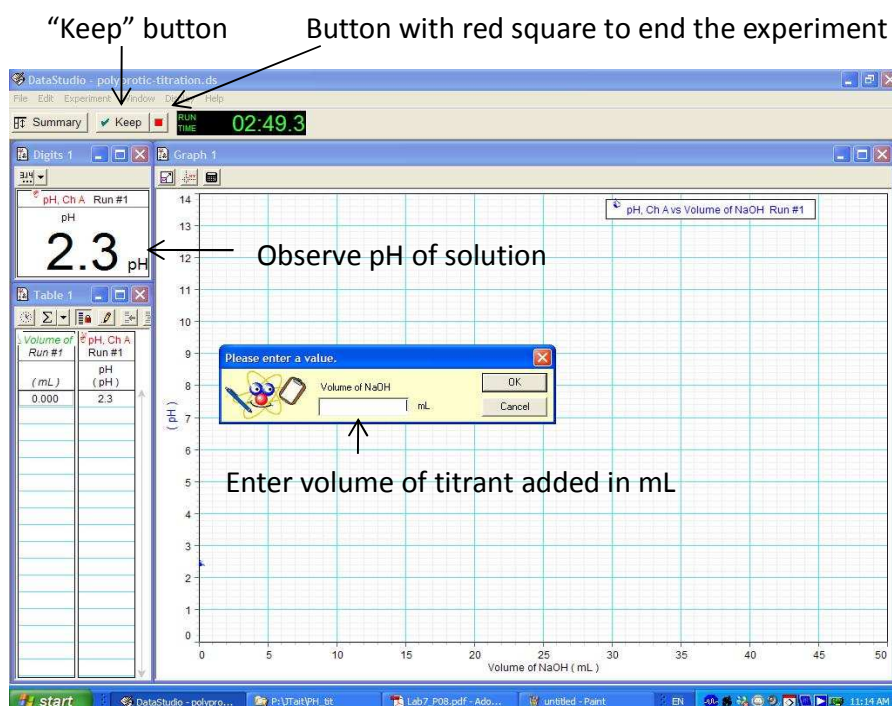

Figure 2: Collection of titration data.
Titration of phosphoric acid with sodium hydroxide (see Figure 2)
- the pH of the solution (approximately pH 2). Swirl the beaker beneath the electrode, and once the pH is stable press the “Keep” in the software (see Figure 2), enter zero in the window that appears, and click “Ok”.